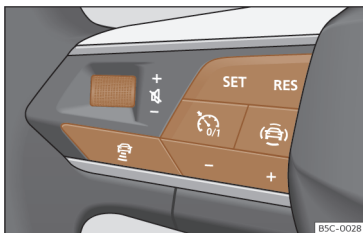

Fig. 130 On the multifunction steering wheel: buttons for operating the ACC.
- Press the  button on the multifunction steering wheel >>> **Fig. 130**.
- To start regulation, press the button **SET** >>> **Fig. 130**.
To program the speed, press the + or - >>> **Fig. 130** buttons to the desired speed. The speed is adjusted at intervals of 10 km/h (5 mph).
- Press the button  and then the button + or - >>> **Fig. 130**.
- Briefly press the button  >>> **Fig. 130** or press the brake pedal.